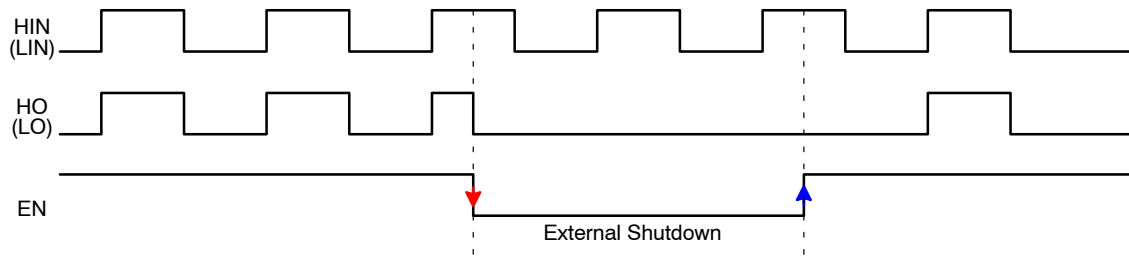

Figure 27. Timing Chart of Enable Function
Enable (EN) is internally pulled low to SGND so the driver is always defaulted to a disabled output status. Similar to HIN and LIN, EN is a Schmitt trigger TTL compatible input. Pulling the EN pin above 2.5 V maximum, enables the outputs, placing the NCP51810 into an active ready state. Due to the nature of high-speed switching associated with GaN power stages, and for improved noise immunity, it is recommended to connect the EN pin to VDD through a 1 kΩ (or less) pull-up resistor. For applications where the EN pin is actively controlled, the EN pin can be driven direct but should be bypassed with a 10 nF decoupling capacitor. As shown in Figure 27, if EN is pulled low during normal operation, the driver outputs are immediately disabled, even terminating an active HIN or LIN pulse mid-cycle during the on-time. When EN is toggled high, during normal operation, a cycle-by-cycle, edge-triggered logic function is employed to prevent shortened, erroneous control pulses from being processed by the output. This behavior is highlighted in Figure 27, where EN transitions high at the same time the HIN (or LIN) input pulse is high. In this way, the NCP51810 is intelligent by waiting until the next rising edge to process the full input signal to the output driver stage.